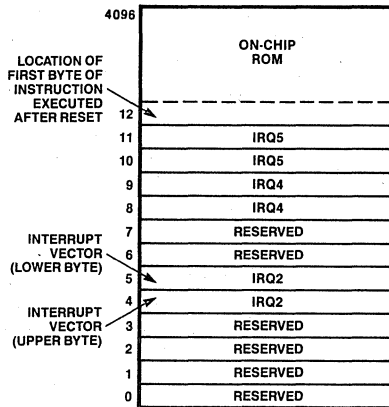

Figure 4. Program Memory Map
**Program Memory.** The 16-bit program counter addresses 4K or 8K bytes of program memory space as shown in Figure 4.